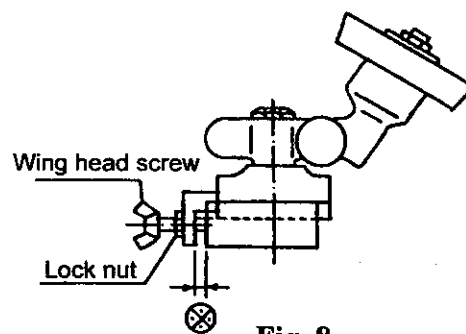

Fig. 8
3. If the grinding wheel is unable to reach the band knife after pulling the grinder lever,then loosen the nut,and turn the wing screw to make the mat move forward a little way (Fig.8).